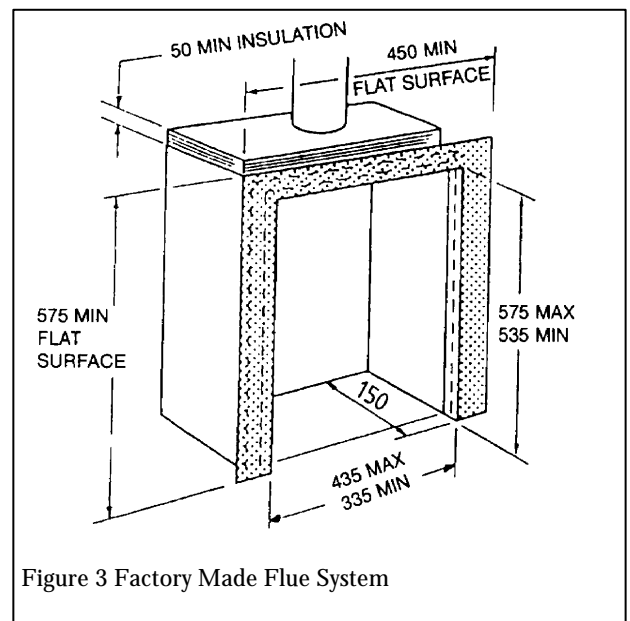

Figure 3 Factory Made Flue System
3. A sheet metal flue system conforming with BS4543 or BS715, the flue diameter being a minimum of 125mm (5") (see Figure 3) with a minimum internal depth of 150mm. Incombustible mineral wool insulation of not less than 50mm thickness must be applied to the top surface of the system firebox, as shown in figure 3.